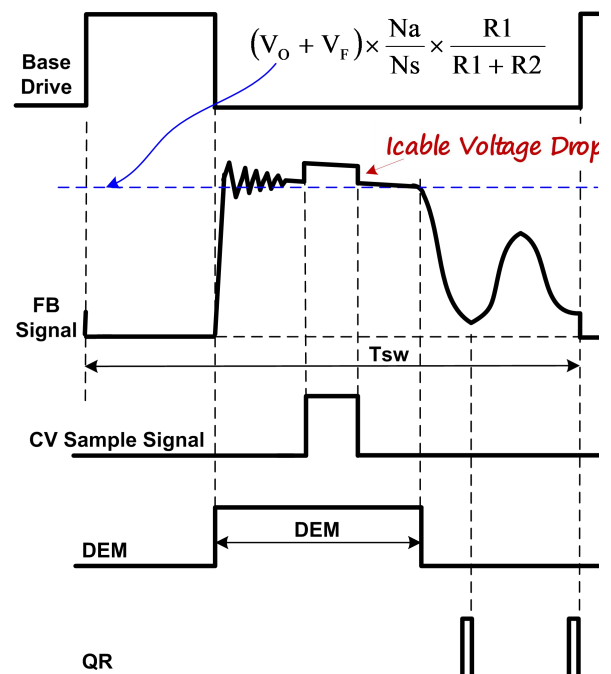

Fig.2
In Primary Side Regulation (PSR) control, the output voltage is sensed on the auxiliary winding during the transfer of transformer energy to the secondary. Fig.2 illustrates the timing waveform of CV sampling signal, demagnetization signal (DEM) and quasi-resonant (QR) trigger signal in DP1800. When the CV sampling process is over, the internal sample/hold (S&H) circuit captures the error signal and amplifies it through the internal Error Amplifier (EA). The output of EA is sent to the Quasi Resonant PSR CV Modulator (QR-CVM) for CV regulation. A valley is selected to trigger new PWM cycle by the output of the QR-CVM block, which is determined by the load. The internal reference voltage for EA is trimmed to 1.3V with high accuracy.
During the CV sampling process, an internal variable current source is flowing to FB pin for Cable Drop Compensation (CDC). Thus, there is a step at FB pin in the transformer demagnetization process, as shown in Fig.2. Fig.2 also illustrates the equation for